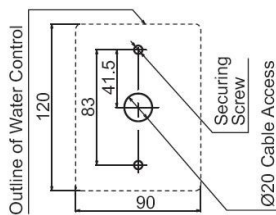

Fig. 1
2. Drill 3 holes in the wall (Fig.1), one for the cable and two for the securing screws. Fit wall plugs if needed and ensure controller is level.
2. Remove the protective cap from the 3 pin connector marked EZ Connect located in the wiring harness of the Primary Unit (Fig.1).
4. Check gas type dip switch no.1 of SW2 is in the correct position for the type of gas (Nat. or LPG)* you are using. See Fig. 1